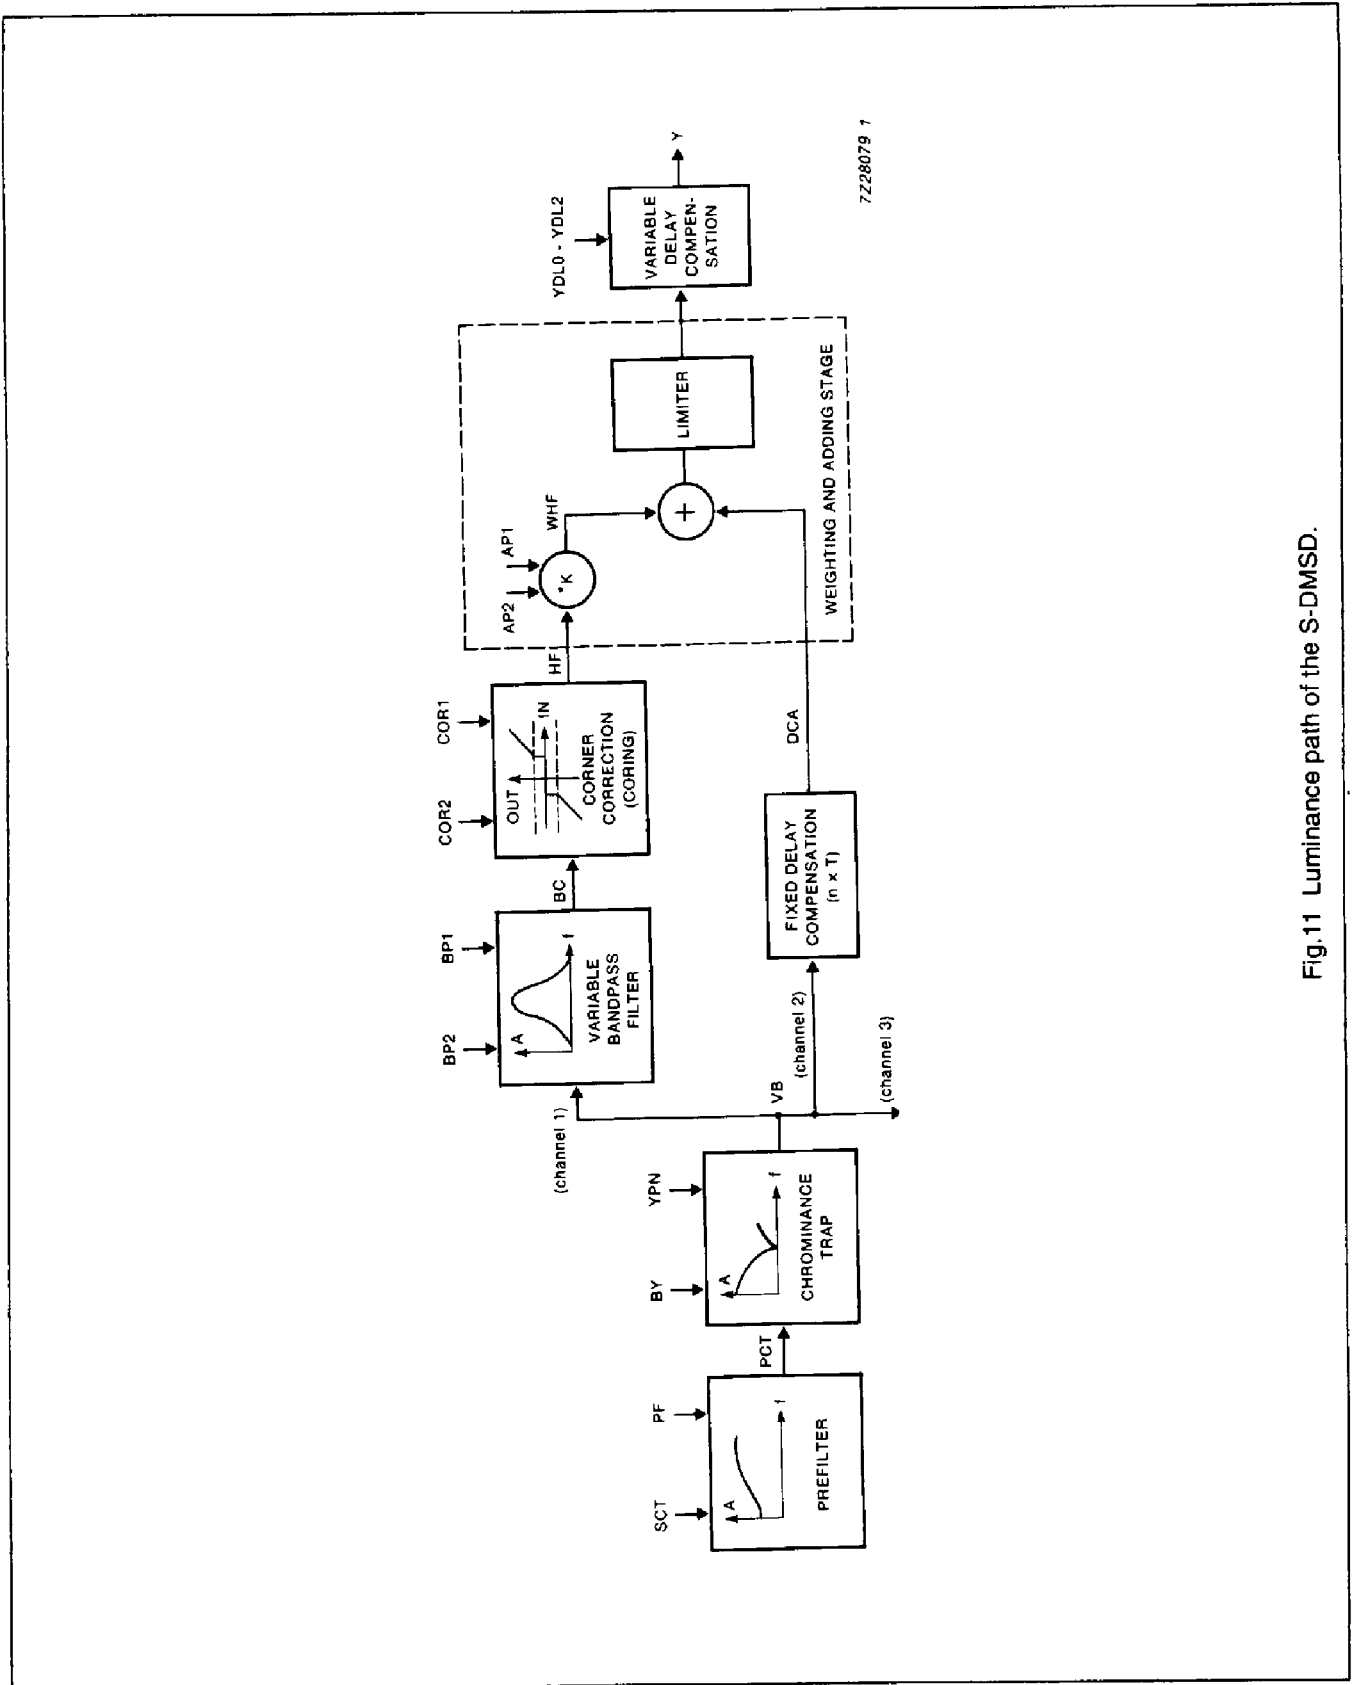

Fig.11 Luminance path of the S-DMSD.
**Table 17** Aperture correction factor (AP1 and AP2 select the weighting factor K of the high frequency (HF) luminance components, see Fig.11)